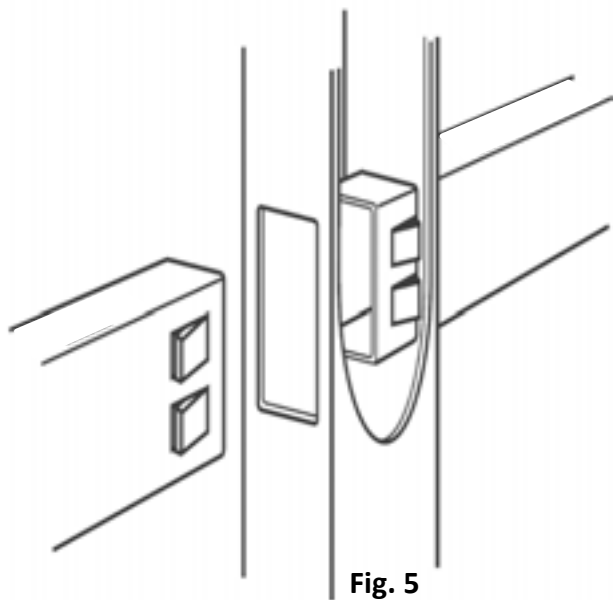
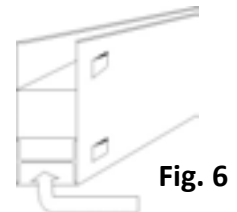

Fig. 5
Fig. 6
**Step 3.** Slide the rail into the bottom hole in the post (Fig. 5). Proceeding down the fence line, place the next rail into the next hole and insert the bottom rail into each post. An additional metal insert (Fig. 6) should be inserted into the **bottom chamber** of the bottom rail **only** for all non-white fence panels.